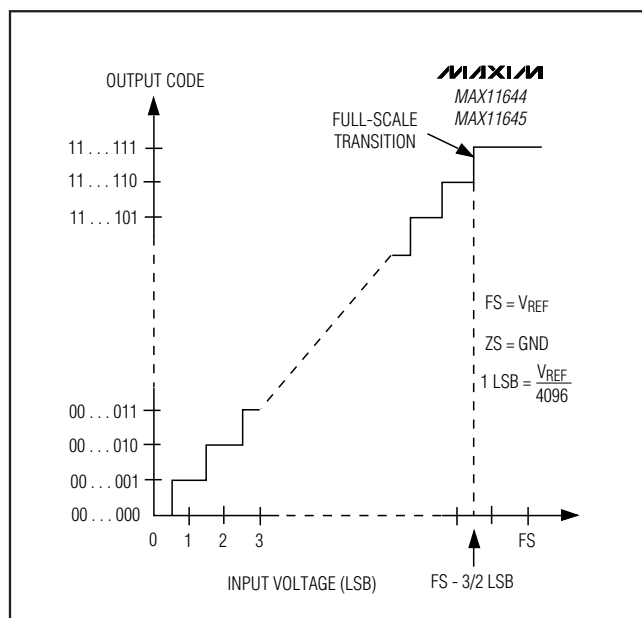

Figure 12. Unipolar Transfer Function
Output data coding for the MAX11644/MAX11645 is binary in unipolar mode and two's complement in bipolar mode with 1 LSB = (V_{REF}/2^N) where N is the number of bits (12). Code transitions occur halfway between successive-integer LSB values. Figures 12 and 13 show the input/output (I/O) transfer functions for unipolar and bipolar operations, respectively.